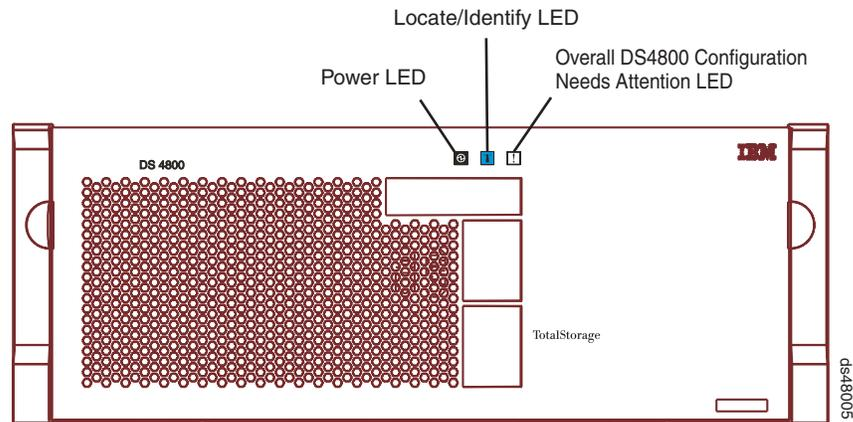

Figure 84. Overall DS4800 Configuration Needs Attention LED on the DS4800 front bezel
2. Locate the storage subsystem that contains the interconnect-battery unit with the failed battery by checking the Overall DS4800 Configuration Needs Attention LED on the front bezel of the storage subsystem. (Figure 84 on page 131 shows the location of the Overall DS4800 Configuration Needs Attention LED on the front bezel.)